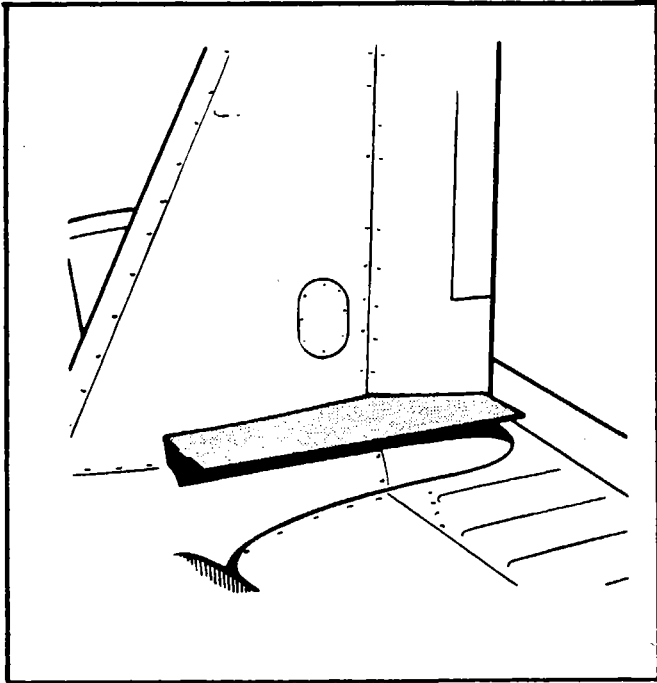

Figure 5-10. Rudder Rigging Tool
2. With the rudder against its stop, place a rigging tool against the side of the rudder and vertical stabilizer as shown in Figure 5-10. (Ascertain that the tool is not contacting any rivets.) If no gap exists between the rigging tool and the surface of the rudder and vertical stabilizer, the rudder stop for one direction of travel is correct as required in Table V-I. (This tool may be fabricated from dimensions given in Figure 5-19.)